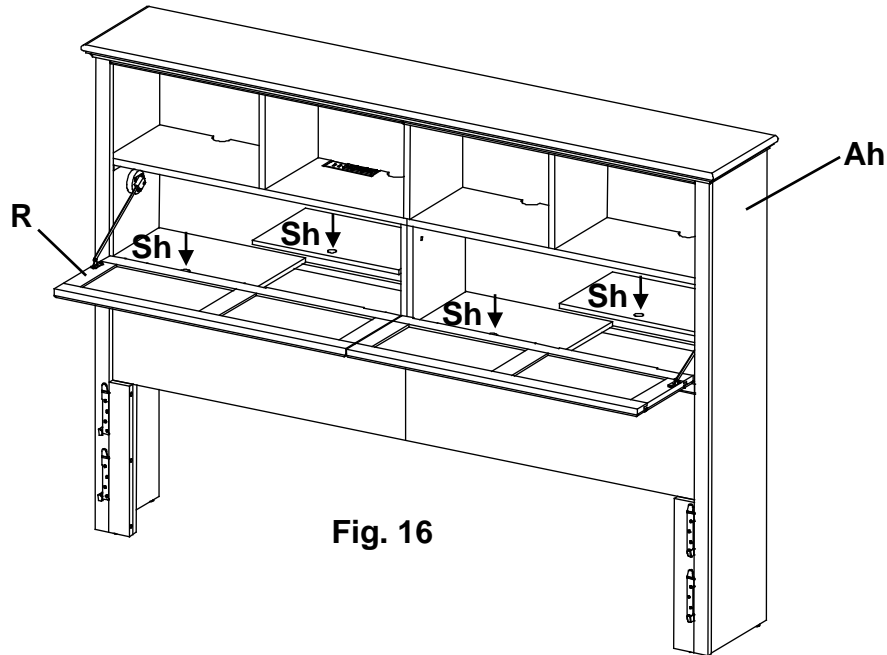

Fig. 16
16. Unwrap the False Bottoms (Sh) and place them on top of the rails in the Headboard Assembly (Ah). Make sure the finger holes face forward as shown in Figure 16. After you have placed your electronics inside the cubbies, use the Wire Clips (ZS) on the underside of the cubbies to secure the wires. Close the door tightly making sure the magnetic catches and plates securely touch.